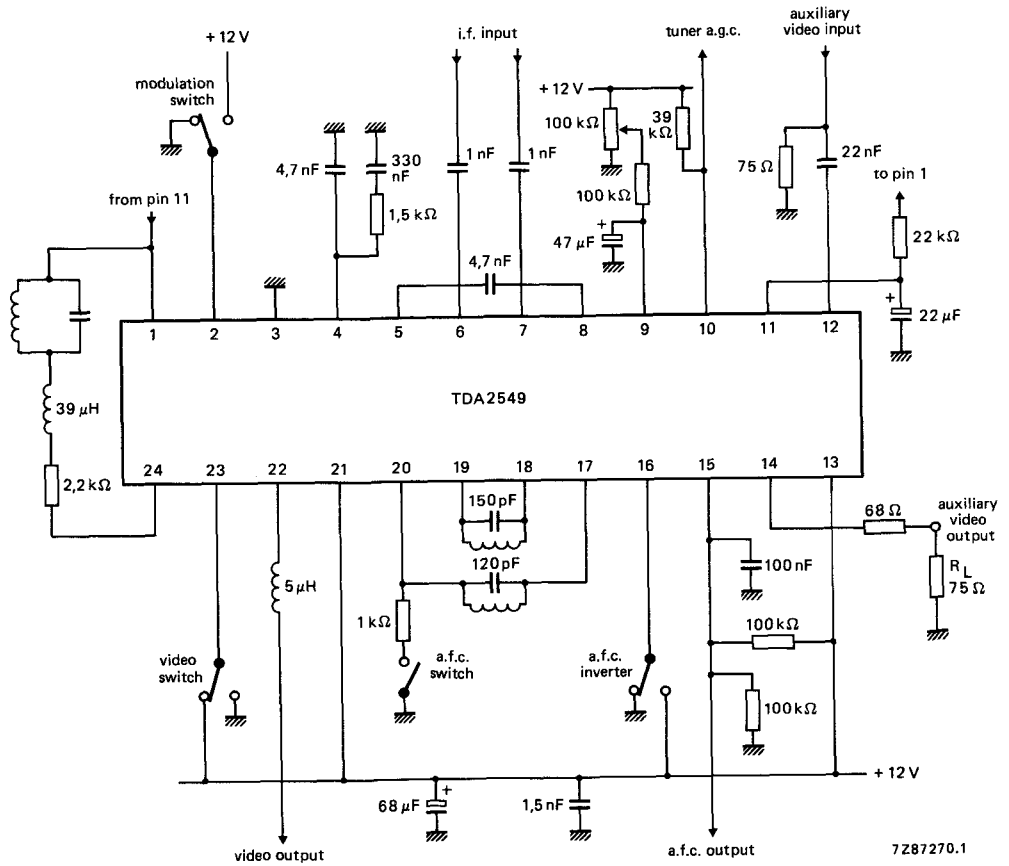

Fig. 5 Application diagram.
**CHARACTERISTICS** (measured in Fig. 5) $V_p = 12\text{ V}$ ;  $T_{amb} = 25\text{ °C}$
- Measured in application of Fig. 5.